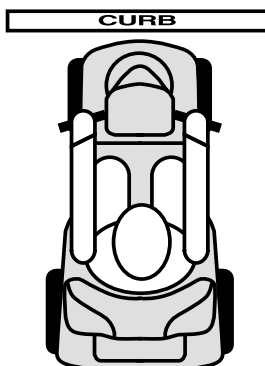

Figure 3. Correct Curb Approach
**WARNING! Be sure your scooter is traveling perpendicular to any curb you may be required to ascend or descend. See figures 3 and 3A.**